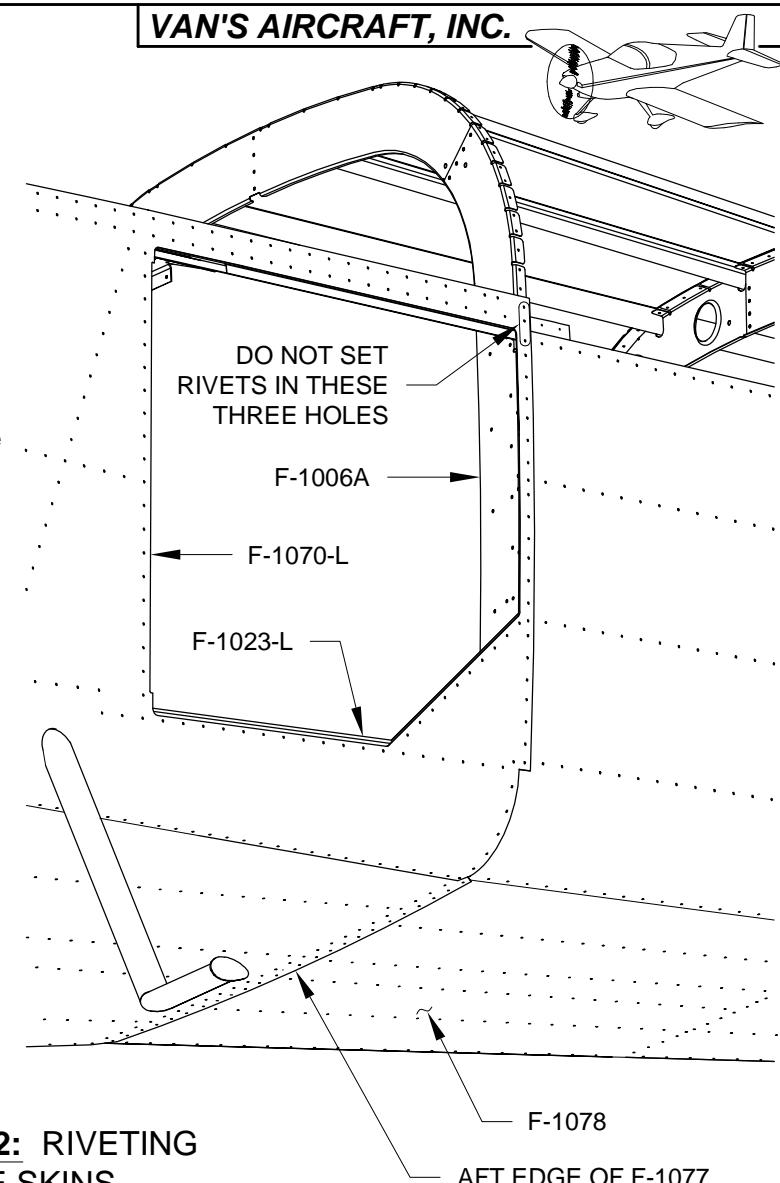

FIGURE 2: RIVETING THE SKINS
Step 12: Rivet the skins to the F-1006A, B, and C Bulkheads. As indicated in Figure 2, do not set the three rivets at the top of the F-1070-L and -R Mid Side Skins which are common to the F-1074 Tailcone Forward Top Skin.
Step 16: Rivet the F-1070-L and -R Mid Side Skins to the F-1046-L and -R Mid Fuse Longerons respectively. Again, as indicated in the Figure 2, do not set any rivets in the holes which are common to the F-1074 Tailcone Forward Top Skin.